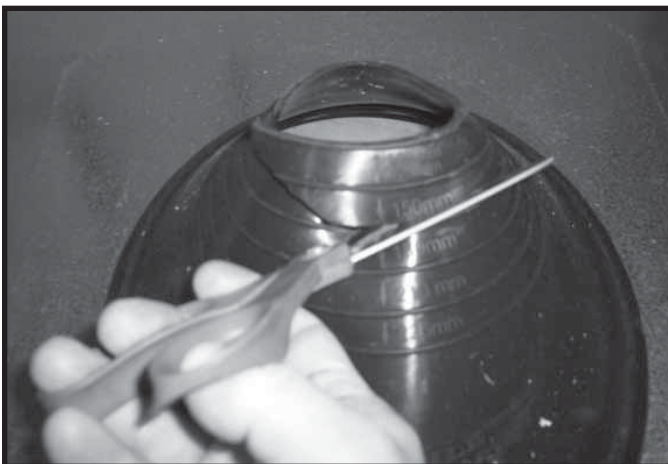

Figure 8.16 Trim Rubber Boot
- Trim the rubber boot (using scissors or a utility knife), cutting along the marked measurement lines. See Figure 8.16. Use the 150 mm line.